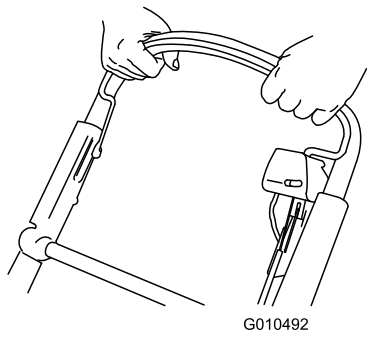

Figure 26
2. Hold the blade control bar against the handle (Figure 26).